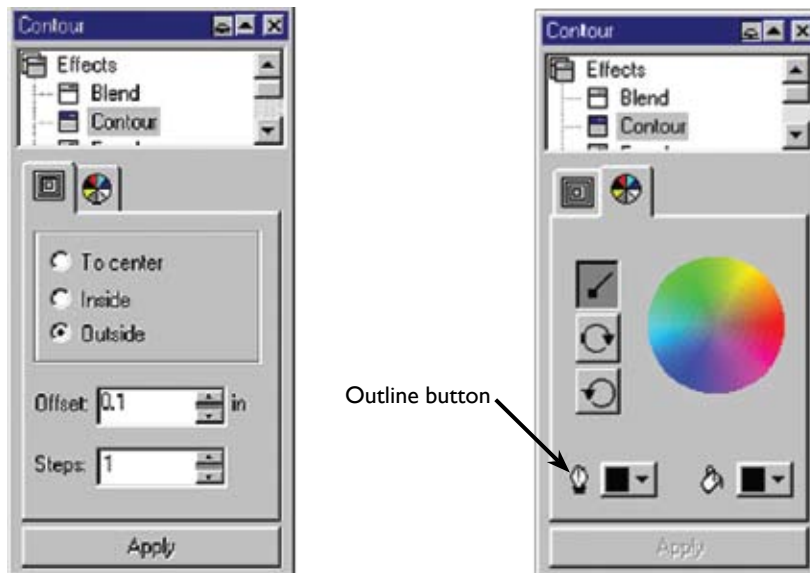

Figure 44. The contour rolls up.
2. Check the box next to **Outside** and enter “.25” in the **Offset** box. In the **Steps** box, enter “1” (**Figure 44**).
3. Click the **Color Wheel** tab in the **Contour** dialogue box. Click on the **Outline** icon and select a color for the design (**Figure 44**).